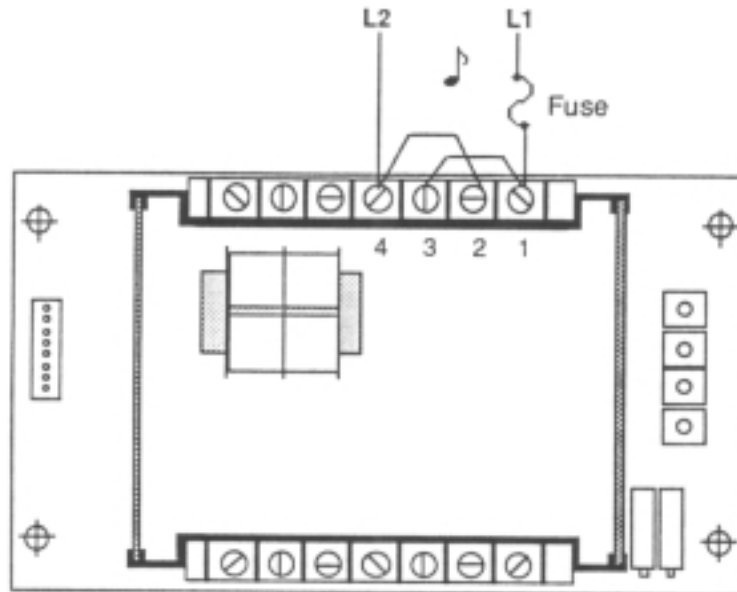

Figure 4 - 120, 100, and 12 VAC Power Wiring.
3. Wire the control per Figure 4 or 5 on Page 5.